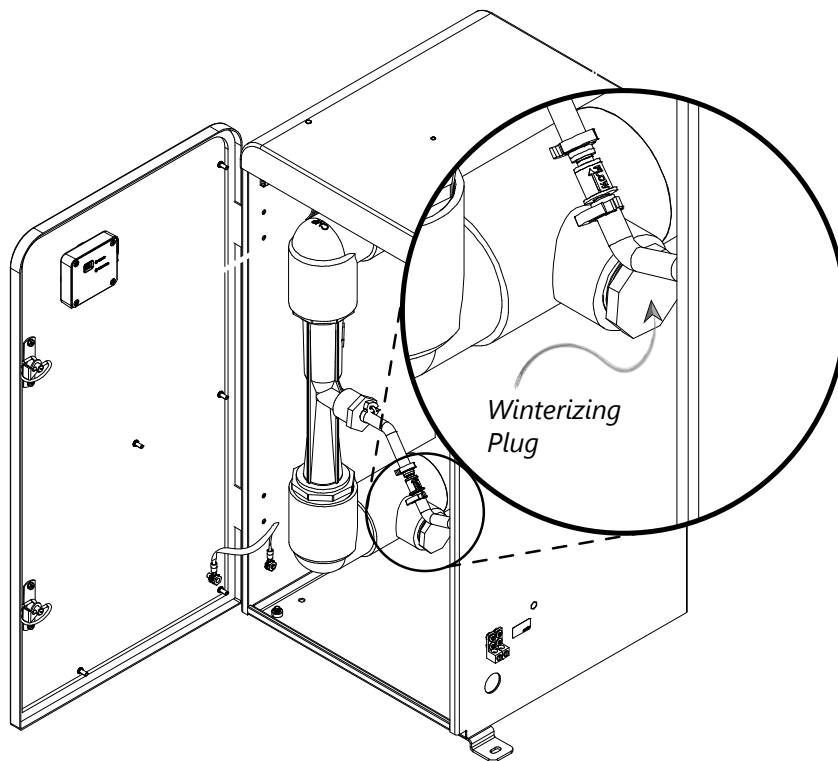

Figure 9: Winterization Plug Location
3. Locate the 1" NPT drain plug (Refer to Figure 9) and remove to drain the remaining water.